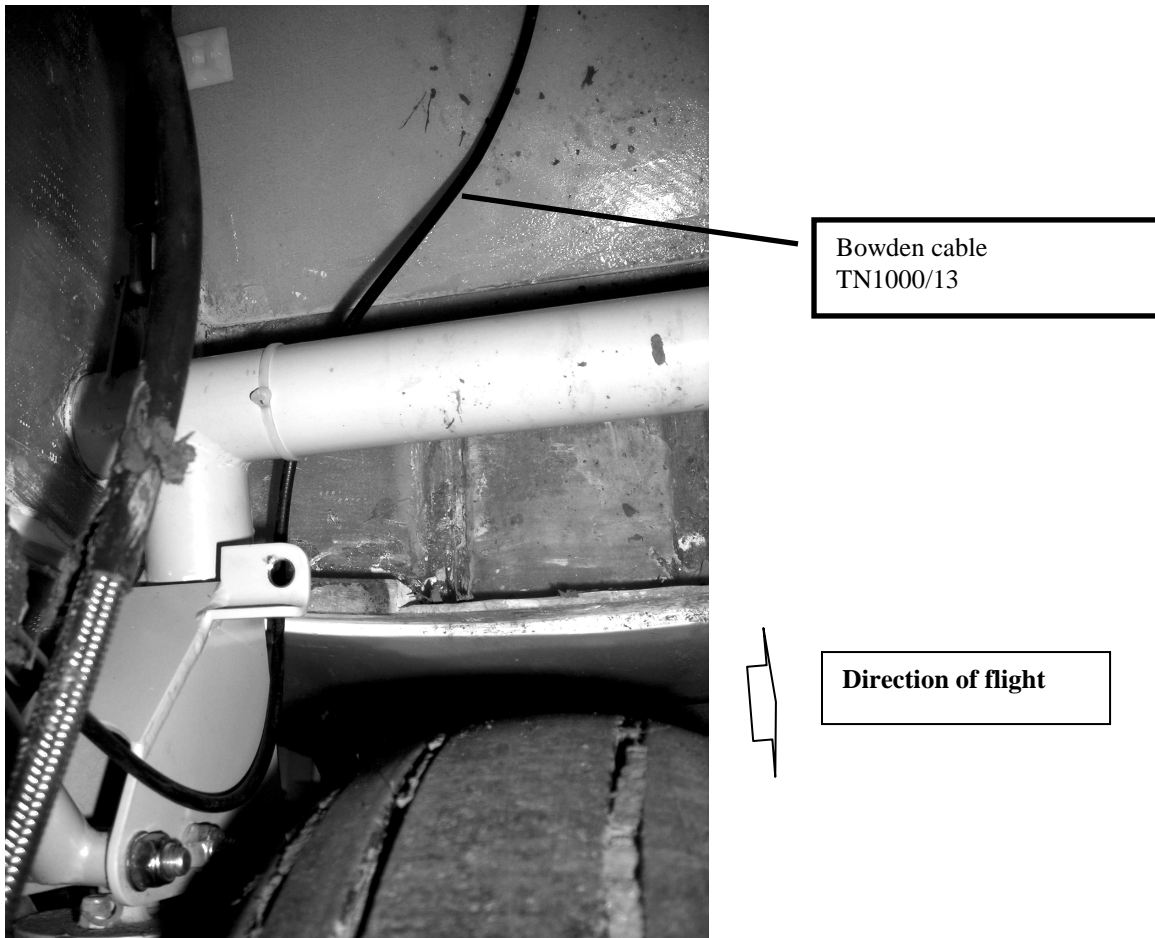

figure 18: LG extended, rubber buffer not installed
19. Route the Bowden cable outer inside the landing gear box according to installation plan 10EP15 and push it through the foam rubber in the rear lower end of the landing gear box parallel to the wheel brake hose (see figure 18)
Secure the Bowden outer inside the landing gear box with a Ty-Rap to the wheel brake hose according to installation plan 5EP15. (see also figure 18 – 20)